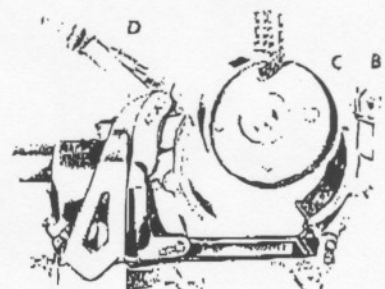

Fig. 12
With brake released†, remove Outer Arm Bearing Pin (B in Fig. 12) being careful to hold in Outer Shoe Arm (C) firmly to prevent swinging out too quickly. Swing top Tie Bar Assembly (D) back over magnet as shown. Motor armature and brake wheel may now be lifted out as a unit. Brake adjustments are not disturbed.